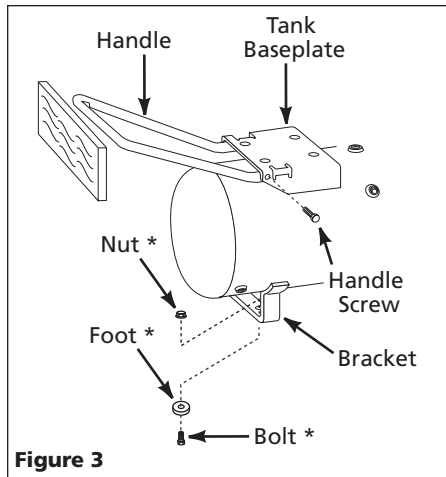

Figure 3
2. Insert handle into both sides of tank baseplate. Squeeze handle to fit into special openings in baseplate (See Figure 3).